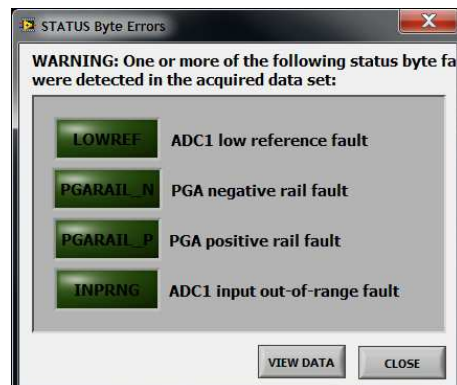

Figure 28. Status Byte Error Pop-up
- *View Errors* reveals a STATUS byte error indicator that ORs all of the STATUS byte error flags to check if any errors occurred in the previous acquisition, as shown in Figure 28. This window automatically appears when an error flag is found in the acquired data set. Switching to the *View Data* window is useful to see when this error first appeared in the collected data.